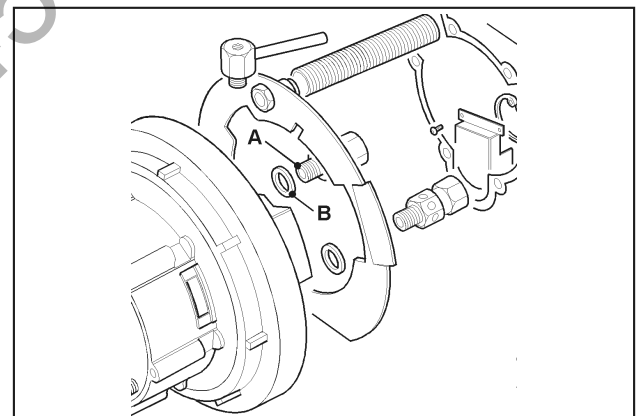

Fig 3.3 - Safety Valve
3.4 Safety Valve (Fig 3.3) PURS